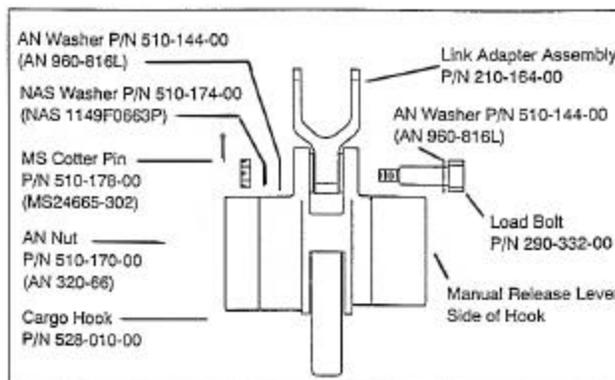

Figure 25-4. Link Adapter Assembly Installation
3. Attach the Cargo Hook assembly to the cargo frame assembly using the hardware that was previously used to attach the universal assembly to the Cargo Hook. The cargo hook load beam should point to the right. (Refer to Fig. 25-4.)